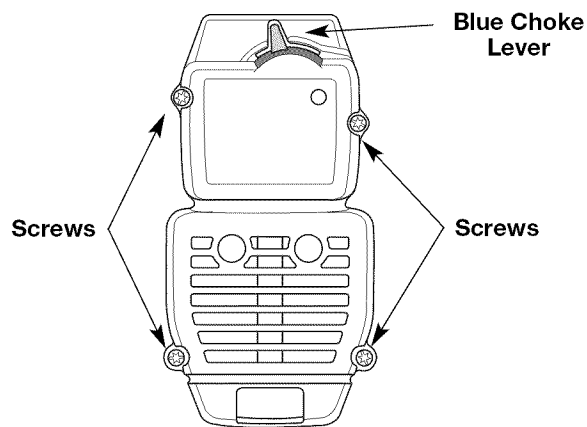

Fig. 36
2. Insert the four (4) screws into the holes in the air filter/muffler cover (Fig. 36) and tighten.